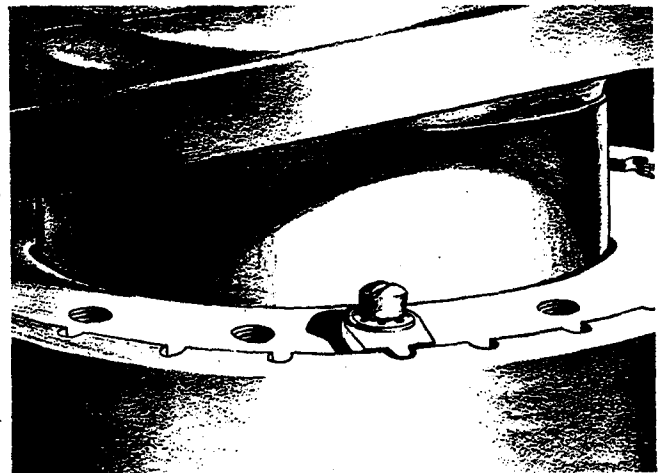

Figure 19
(3) Remove the screw that holds the retainer ring lock in place, and remove the retainer ring lock. (See figure 19.)